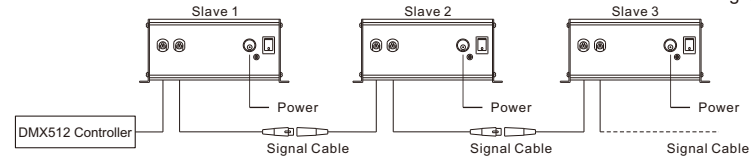

Fig.3
(5) The connection of DMX Signal Control Mode (Fig. 3):